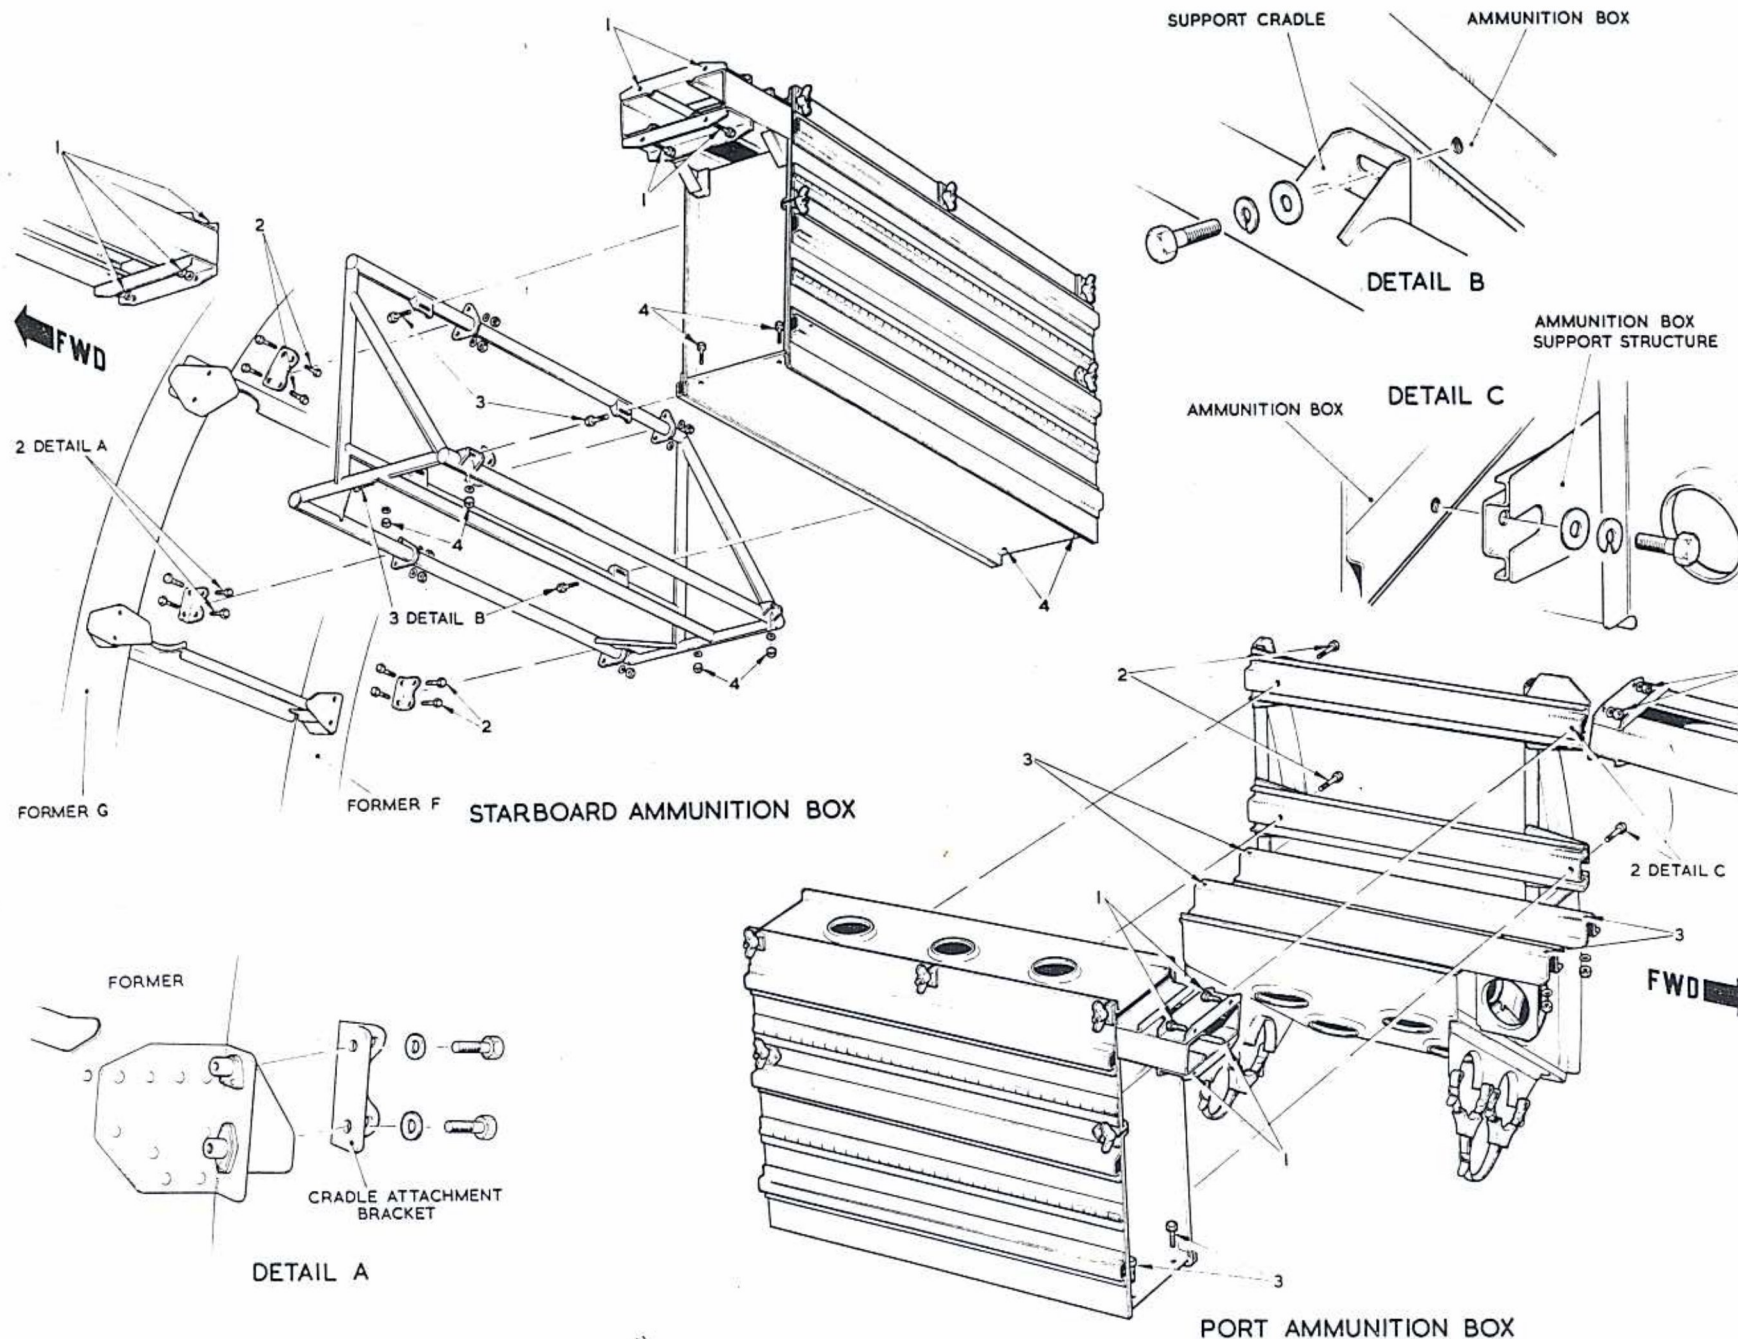

Fig. 5. Ammunition box removal.
25. To remove the port ammunition box from the mounting structure, ensure that all the ammunition is removed from the box, refer to fig.5 and proceed as follows:-
28. To remove the starboard ammunition box from the aircraft, ensure that all the ammunition is removed from the box, refer to fig.5 and proceed as follows:-